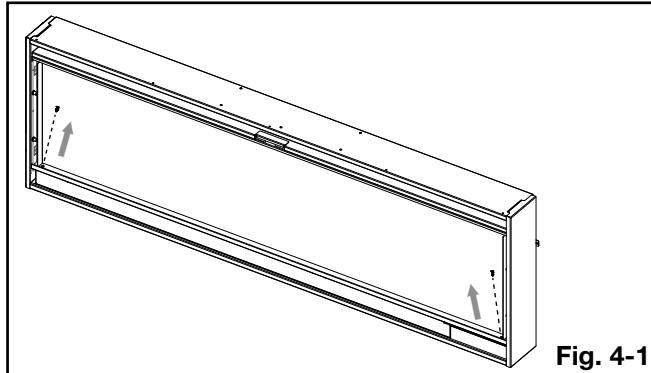

Fig. 4-1
1. Remove the 2 screws from the plastic ember bed panel before applying crystal embers and/or logs to keep the ember bed panel flat (**Fig. 4-1**).